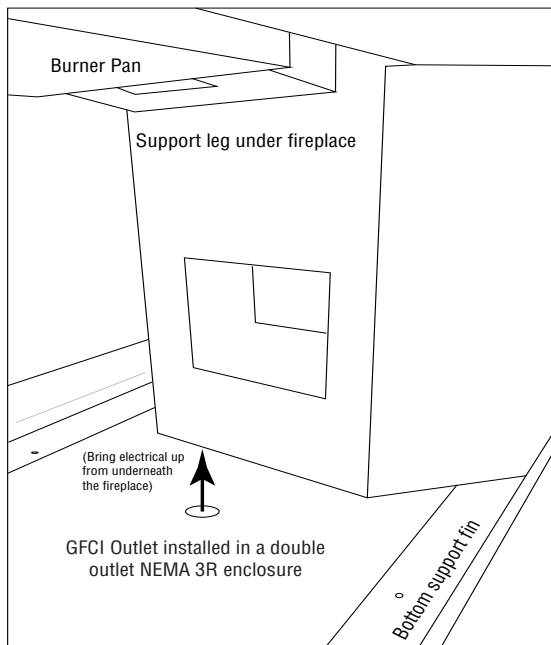
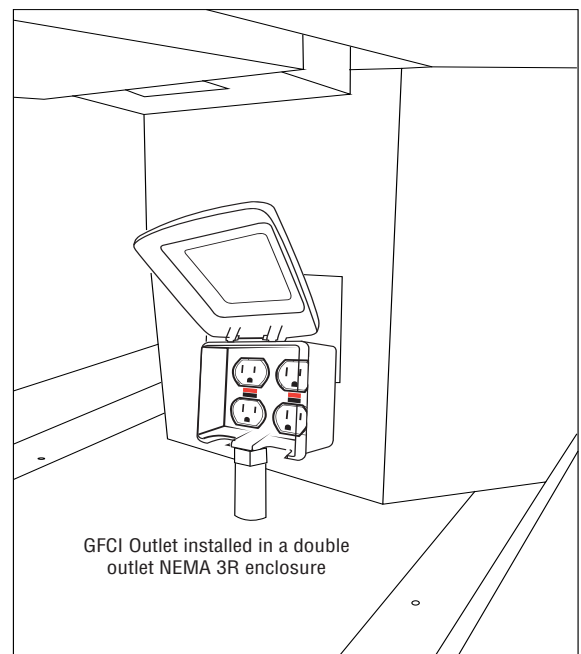

Figure 15 - GFCI box location under fireplace
Figure 16 - Show GFCI box mounted in fireplace
Figure 16 shows GFCI gang box installed.
Step 2: Find mounting location for the GFCI gang box. **Figure 15** shows flat area underneath burner pan. Mount box underneath the burner pan, below the square (cutout) hole area. **Figure 16** shows the GFCI outlet double gang junction box with a weatherproof cover mounted underneath the fireplace.